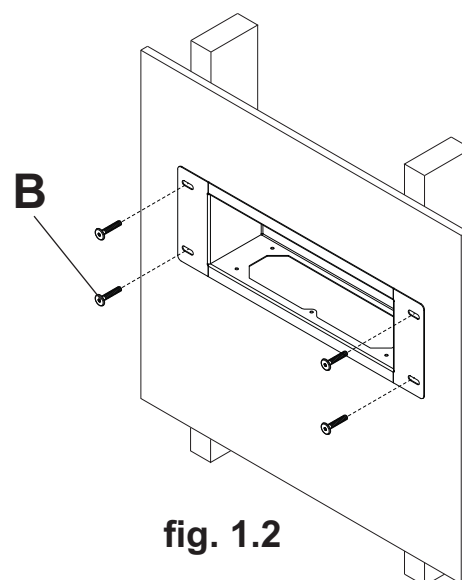

fig. 1.2
Level in-wall box, and mark center of the four mounting holes. Make sure that the mounting holes are on stud centerlines. Drill four 3/16" (5mm) dia. holes 1-1/2" (38mm) deep. Make sure in-wall box is level, and secure it using four wood screws (B) as shown in fig. 1.2.